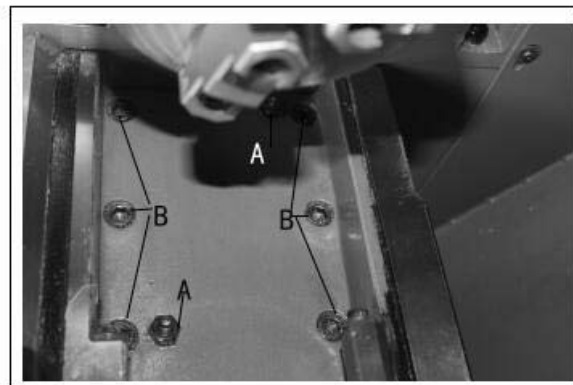

Figure 26
1. To remove gap bridge, locate two nuts (A, Fig. 26) in the center of the gap bridge.
3. Remove six hex socket cap screws (B, Fig. 26) with a hex wrench.